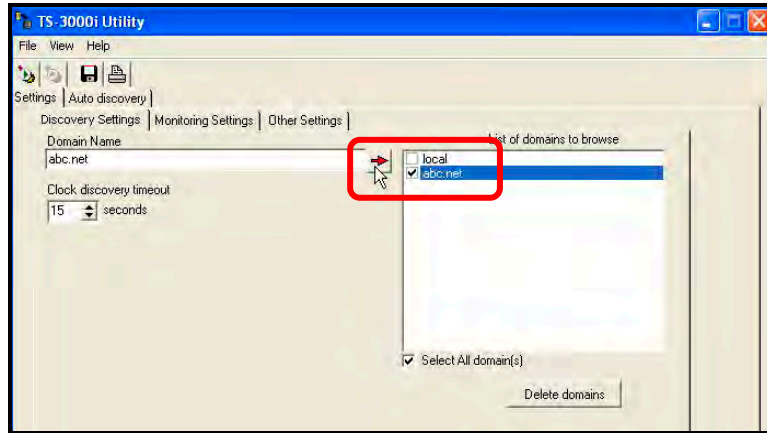

Figure 8-3. Discovery Settings.
- Step 3. In the Domain Name field, enter the domain name of your network and press the Red Arrow  button to load the Domain Name in the list on the right for discovery of all clocks in your companywide domain (see *Figure 8-3*). For example, the domain name of your companywide network might be “abc.net”.